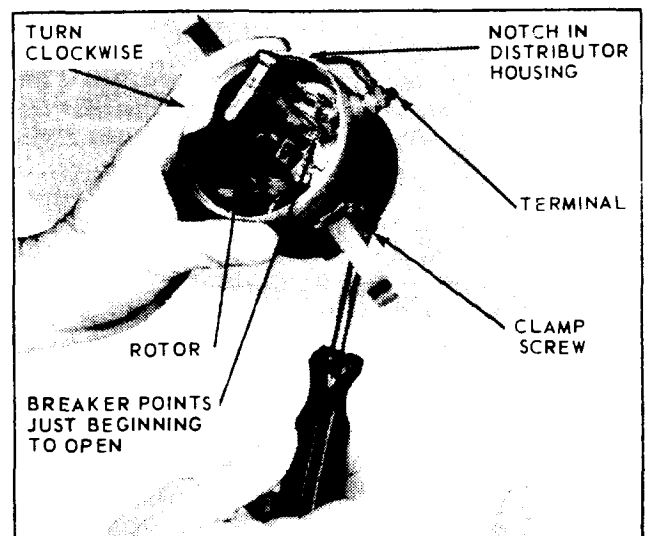

Fig. 21
1. Place rotor on distributor shaft so that center of rotor is aligned with center of notch (location of No.1 terminal tower), in distributor housing as illustrated in *Fig. 21*.
2. Mount distributor to housing so that notch (point ignition only) and No.1 terminal tower are in an approximate 1 o'clock location as shown in *Fig. 21*. Tighten advance arm mounting screw to adapter housing.
3. With the distributor clamp screw loose, see *Fig. 21* turn the distributor body slightly in a counterclockwise direction until the breaker points are firmly closed. Then turn the distributor body in a clockwise direction until the breaker points are just beginning to open. At this point a slight resistance can be felt as the breaker point cam strikes the breaker point arm.